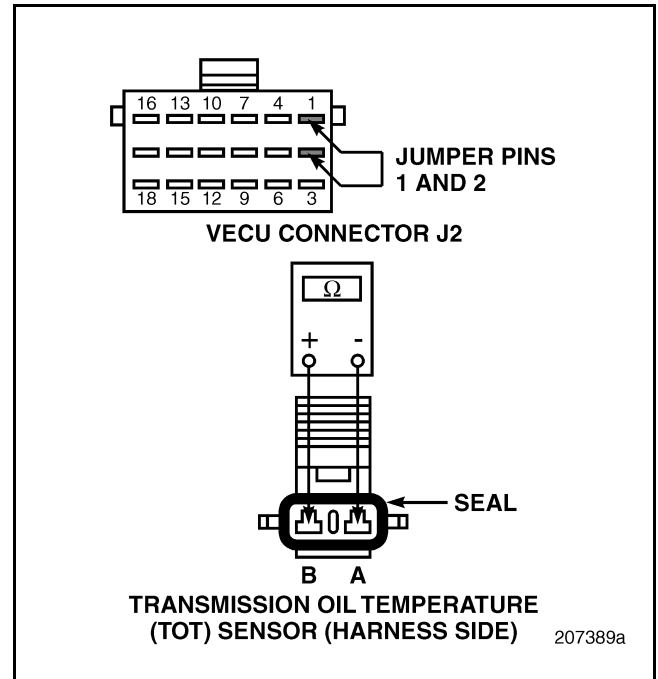

Figure 231
4. Check for continuity between pins A and B of the Transmission Oil Temperature Sensor harness connector (see Figure 231).